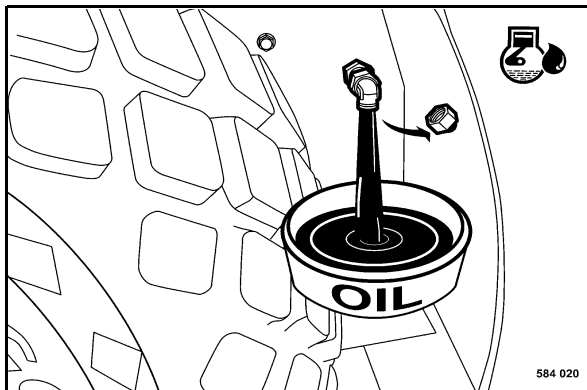

Fig. 136
- Unscrew the drain plug (Fig. 136) and catch running out oil.